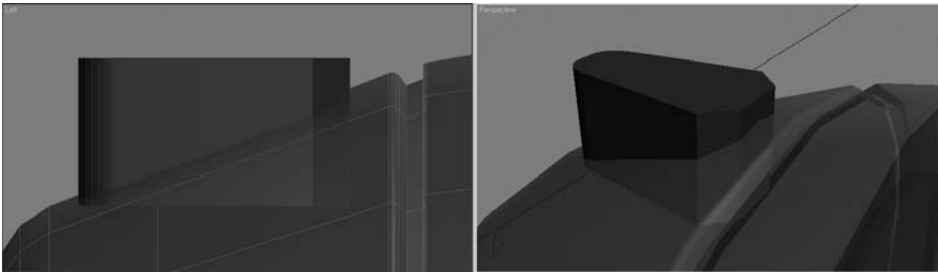

Figure 5.79
8. Line up the Thruster Detail object to the thruster as shown in Figure 5.79.